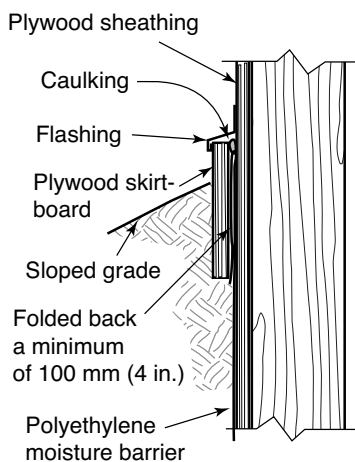

FIGURE 63A
- loop the polyethylene behind the skirt board, so that the polyethylene can slide as the backfill settles (see Figure 63a);